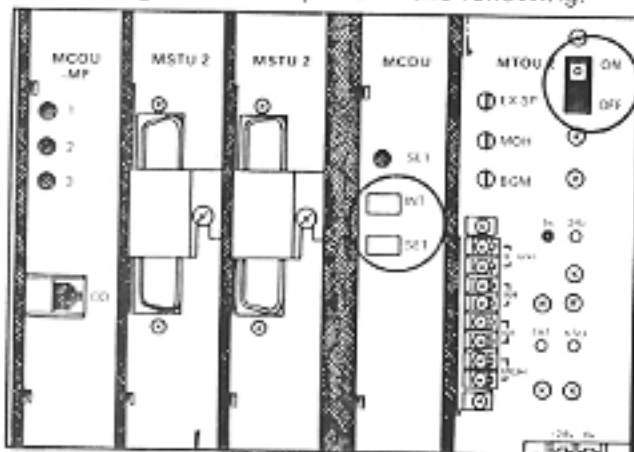

FIGURE 43—INITIALIZING SWITCHES
09.03 To initialize the system data memory, refer to Figure 43 and perform the following: